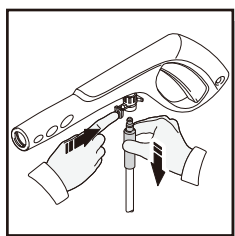
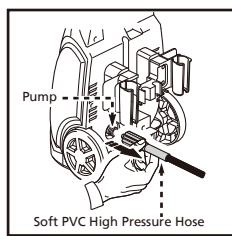

Fig. 20
Fig. 21
- Remove Soft PVC high pressure hose from spray gun (Fig. 20) and unscrew the other end of the high pressure hose from the power washer (Fig. 21).